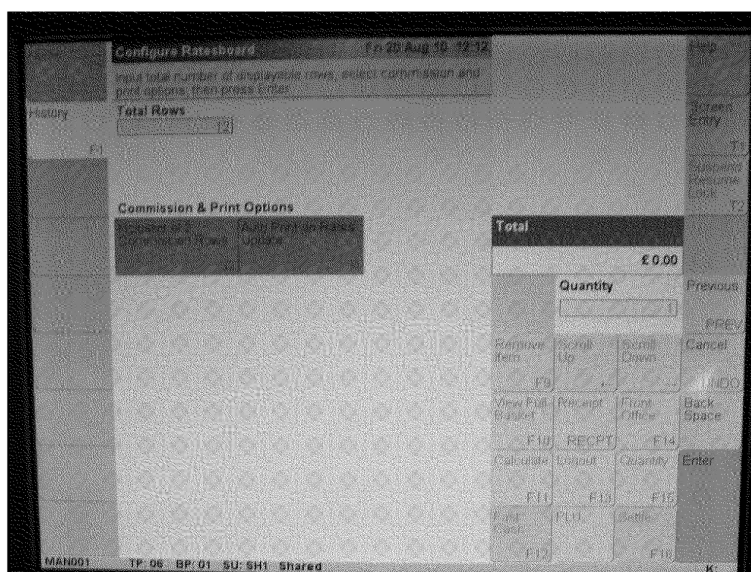

Figure 4
- 1) The Branch Manager should touch the 'Configure Rate Board' icon which will prompt the first of the Rate Board configuration screens. The Branch Manager will first be asked to input the number of rows on the Rate Board, see figure 4.
- 2) The screen will display a defaulted figure of 12 in the 'Number of Rows' field, as shown above in 4. As no Rate Board is connected to this counter, the Branch Manager should disregard the question and simply select the icon (or press enter on the keyboard). The Branch Manager will then be asked whether the last 2 rows should be reserved as commission lines, see figure 4 above
- 3) As no Rate Board is connected to this counter, the Branch Manager should disregard this question and simply select 'Yes'. The Branch Manager will then be asked whether to automatically print a report on rates update, figure 4 above
Upon passing the final Currency Code, HNGX will navigate back to the engineer screen, see figure 4 above